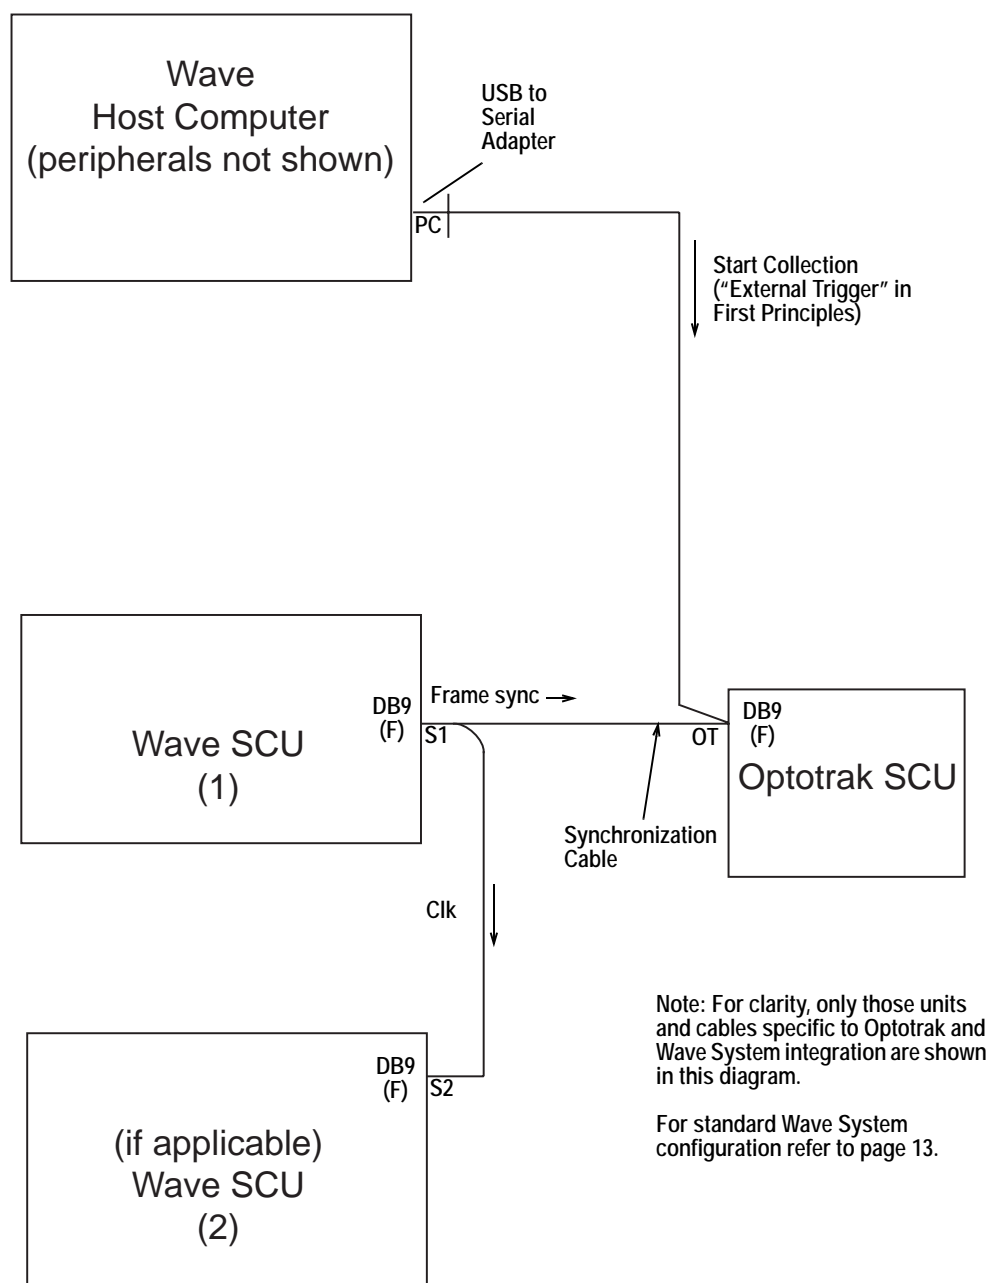

Figure A-2 Optotrak System Integration
3. Interconnect the Optotrak System and Wave System using the Synchronization Cable as shown in Figure A-2. (If the Wave System incorporates only one SCU, there will be a connector on the Synchronization Cable that is not used.)